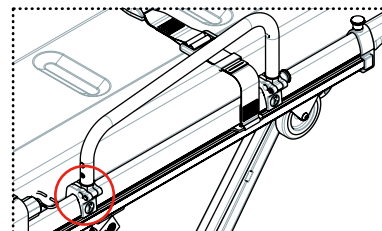

FIGURE 3
- The bolt of the rear support (see Fig. 3) that fixes the handrails on the profile is well tightened